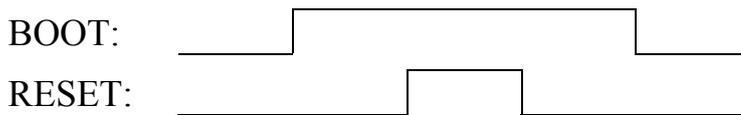

Figure 5: Initiating the burn-in-mode at DIPmodule F40
Therefor please proceed as shown in *Figure 5* in *chapter 3.1.1*.
- Press "*Download*". At that point you are asked to set the burn-in-mode. Therefore proceed as described in *chapter 3.1.1, Figure 5*. If you confirm the request with "OK", the flash controller program is being transmitted into the hardware. Afterwards confirm the status signal at the end of the transmit with "OK".